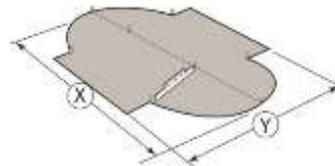

fig. 2
- With the help of a level and a strip of wood, check periodically that the ground is 100% leveled. Level the whole area at the same level as the lowest area, fig 2.
Space required fig. 2: